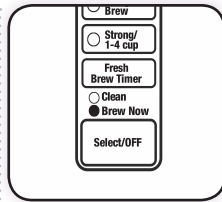

Figure 25
- 4 At the preset time, the Brew Now indicator light will turn on and pulse. The Delay Brew indicator light will turn off, and the brew cycle will begin. (Figure 25)